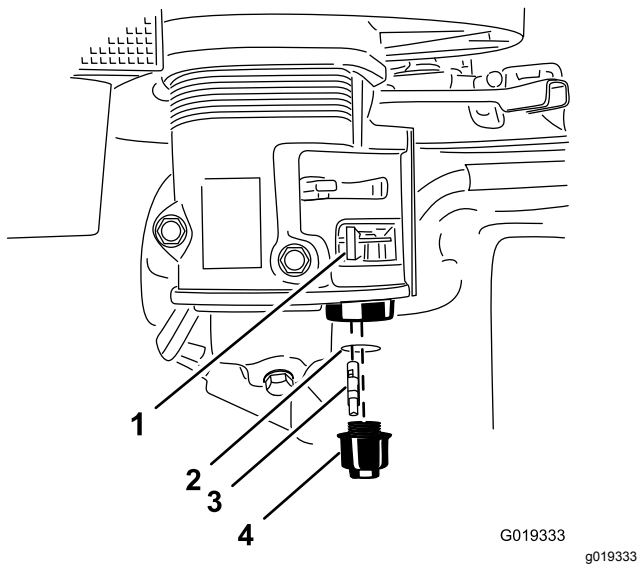

Figure 30
4. Move the lever of the fuel valve to the OFF position, all the way to the left (Figure 30).
5. Unscrew the fuel-sediment cup (Figure 30).
6. Remove and retain the fuel filter and O-ring (Figure 30).
9. Install the fuel filter in the bottom of the carburetor (Figure 30).